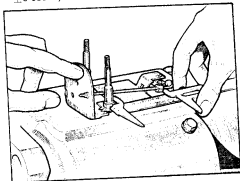

Fig.26 - Using the Vernier gauge
- Press the governor arm lightly towards the metering valve and, holding a vernier gauge parallel to the pump axis, as shown in Fig. 26 adjust the linkage nut to set the governor link length to 52.5 ± 1 mm (2.064 \pm 0.039 in).